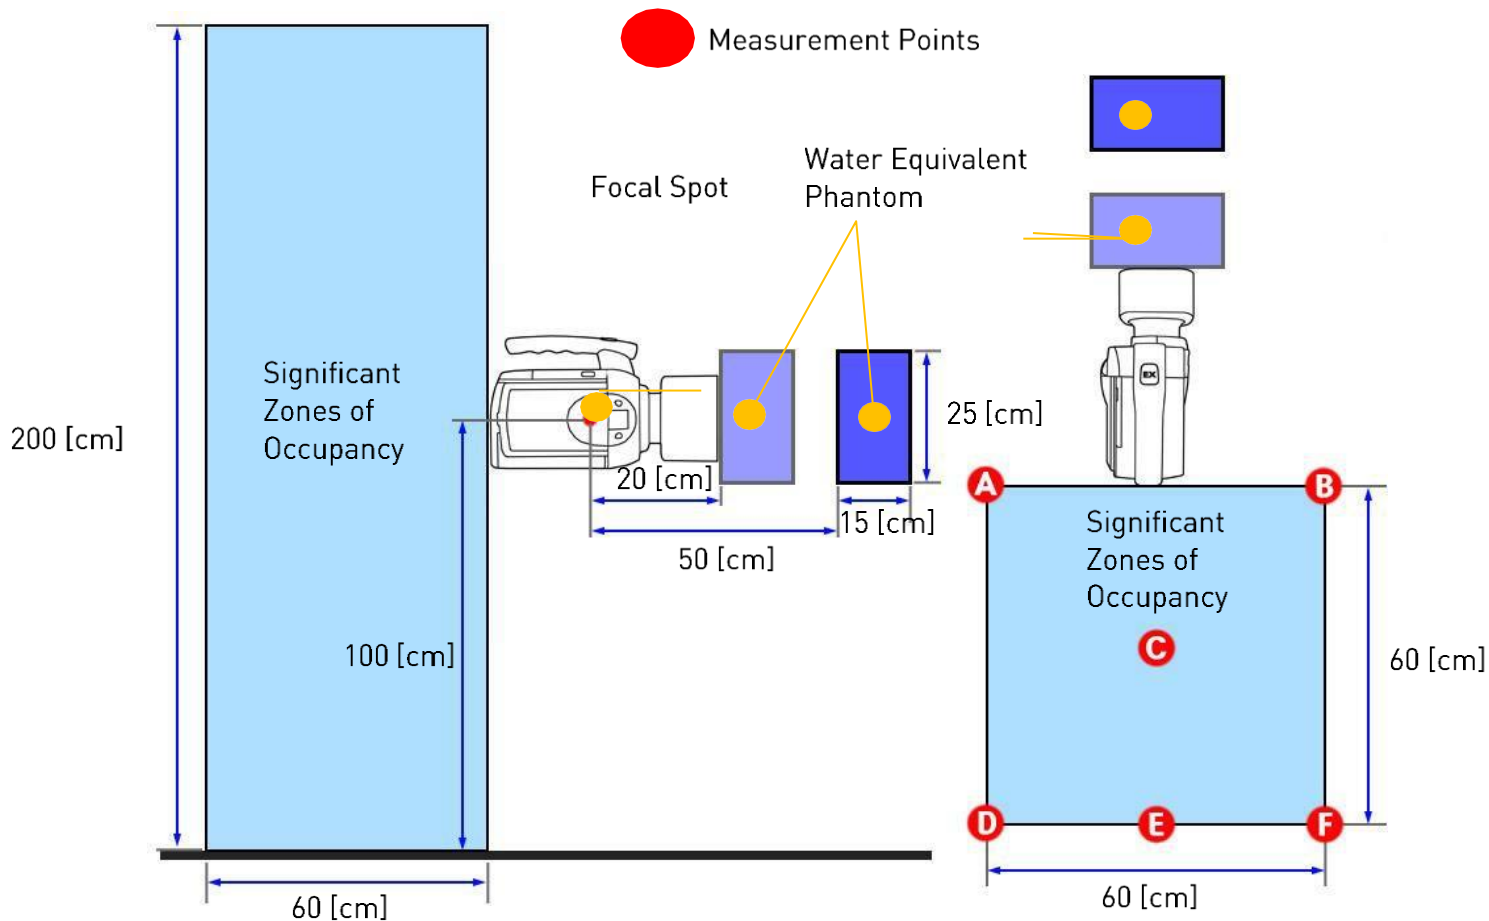

Figure 11.14 [Test Method of Stray Radiation]
- The device and environment setup to measure stray radiation is shown in Figure 11.14.
- The measuring points in the significant zone of occupancy are every 10cm point from 0cm to 200cm and the measuring point at each height are depicted as red circles as shown in Figure 11.14.